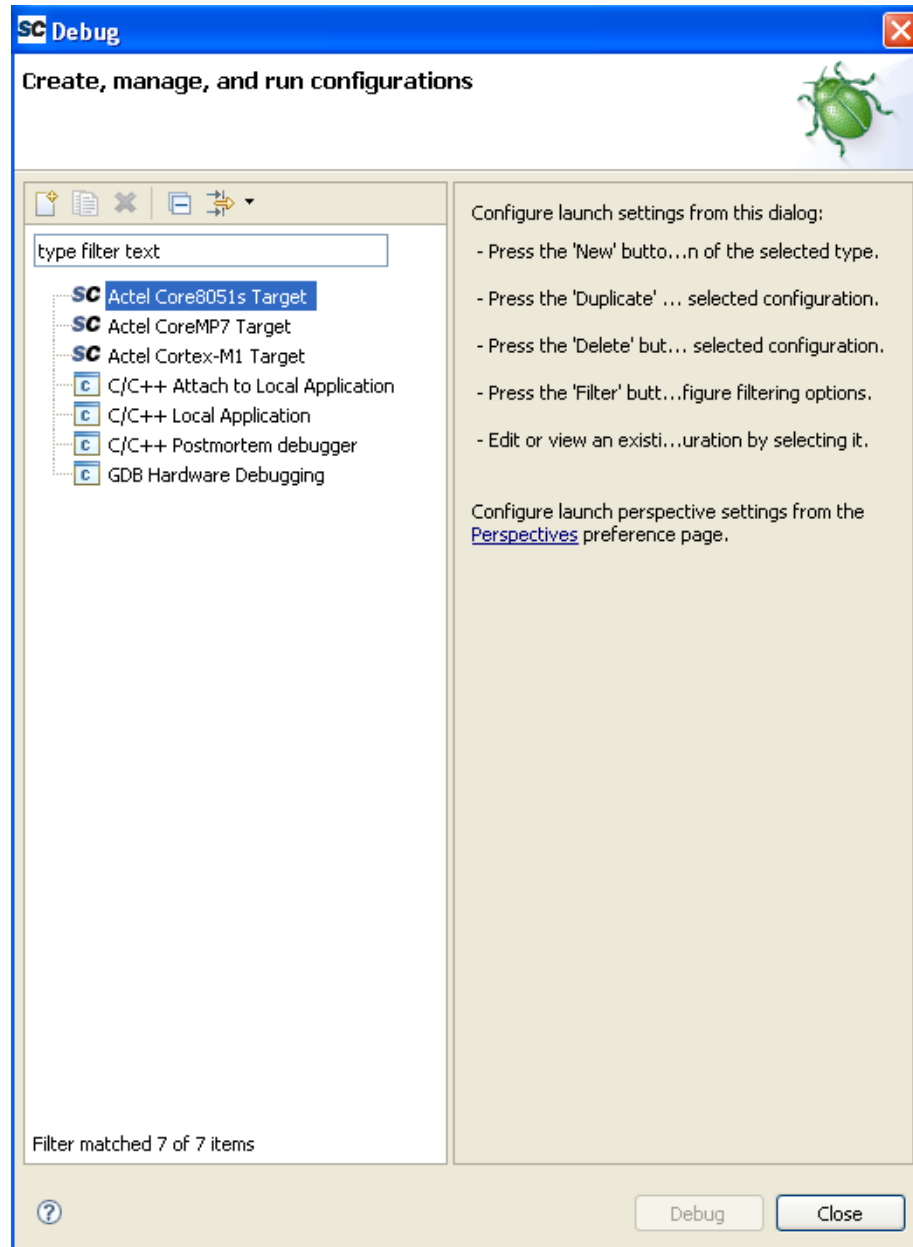
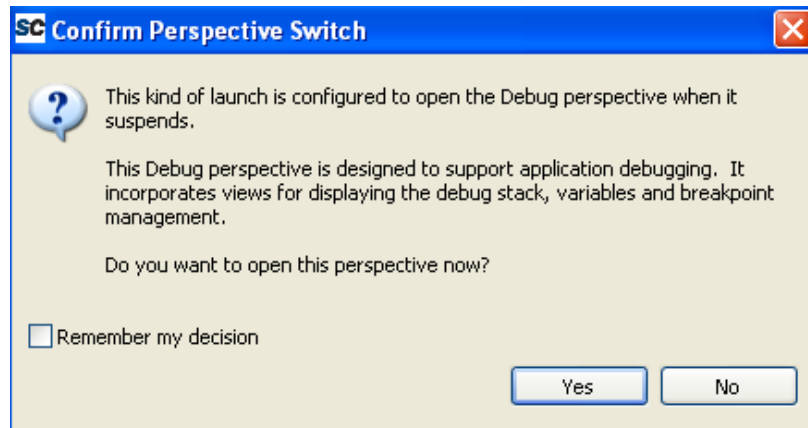

Figure 6-2 · Selecting the Debug Target
Figure 6-5 · Confirming Switch to Debug Perspective
3. Right-click the relevant target (Actel Cortex-M3 eNVM Target, Actel Cortex-M3 RAM Target, Actel Cortex-M1 Target, or Actel Core8051s Target) and choose **New** (Figure 6-2 on page 48). SoftConsole automatically configures the debug utility.
After the file loads, the Debug window (shown in Figure 6-2 on page 48) will disappear and the Confirm Perspective Switch window will open (Figure 6-5). Click the Yes button. The debug perspective will open.